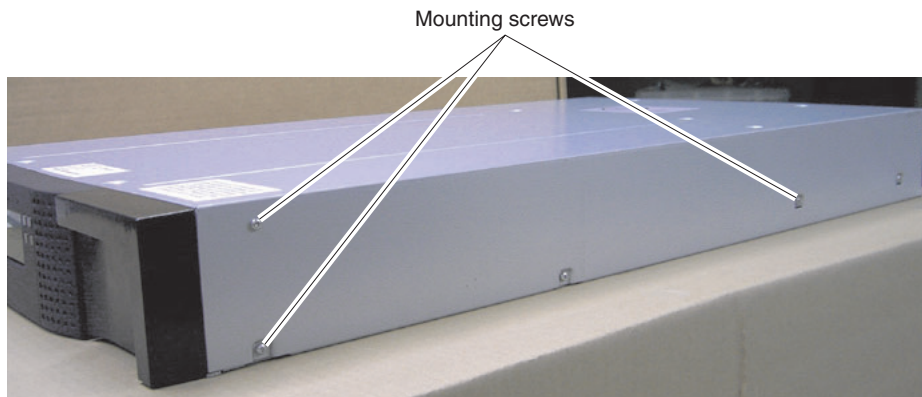

Figure 3. Removing the mounting screws
6. Remove the mounting screws shown in Figure 3.